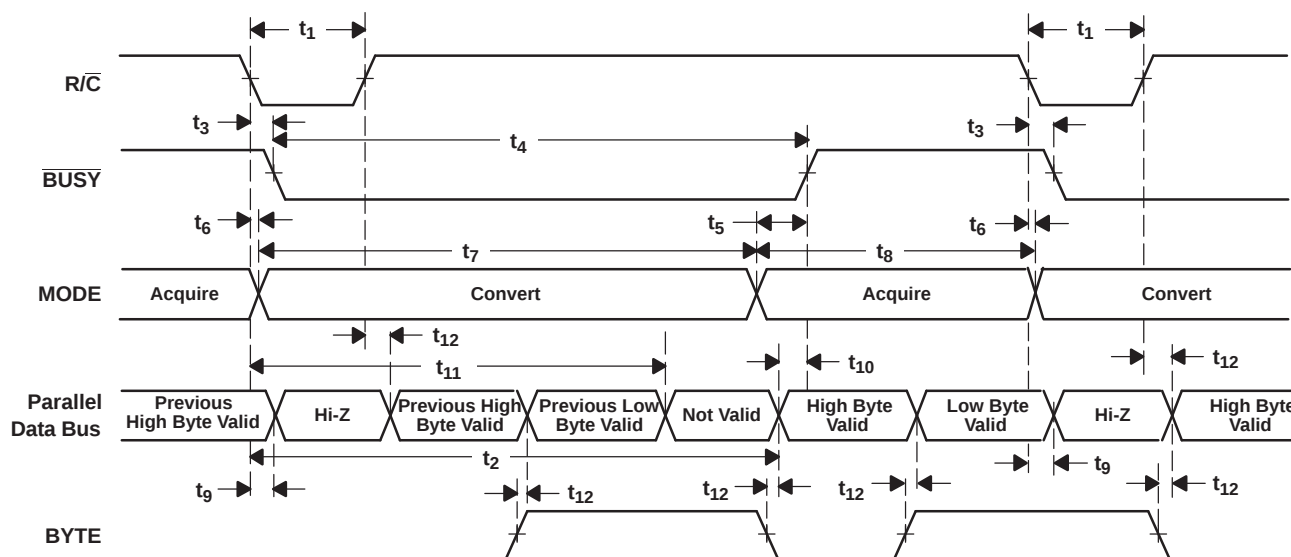
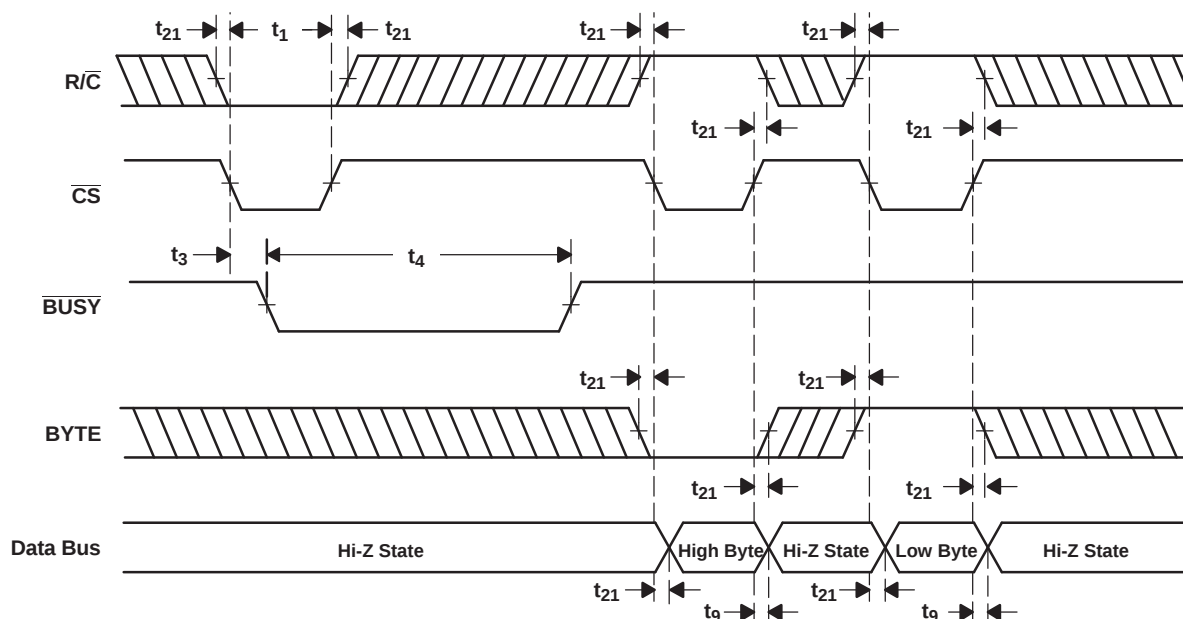

Figure 33. Conversion Timing With Parallel Output ($\overline{\text{CS}}$ and DATACLK Tied Low, $\overline{\text{EXT/INT}}$ Tied High)
Figure 34. $\overline{CS}$ to Control Conversion and Read Timing With Parallel Outputs
The ADS8507 begins tracking the input signal at the end of the conversion. Allowing 25 μs between convert commands assures accurate acquisition of a new signal. Refer to Table 2 and Table 3 for a summary of $\overline{CS}$, $R/\overline{C}$, and $BUSY$ states, and Figure 33, Figure 34, Figure 35, Figure 36, Figure 37, Figure 38, and Figure 39 for timing diagrams.
(1) See Figure 33 and Figure 34 for constraints on data valid from conversion $N-1$.
After conversion N is completed and the output registers have been updated, $\overline{\text{BUSY}}$ (pin 24) goes high. Valid data from conversion N is available on D7-D0 (pin 9-13 and 15-17). $\overline{\text{BUSY}}$ going high can be used to latch the data. Refer to Table 5 and Figure 33 and Figure 34 for timing specifications.
After conversion N has been initiated, valid data from conversion $N-1$ can be read and is valid up to 12 μs after the start of conversion N . Do not attempt to read data beyond 12 μs after the start of conversion N until $\overline{BUSY}$ (pin 24) goes high; this may result in reading invalid data. Refer to Table 5 and Figure 33 and Figure 34 for timing constraints.